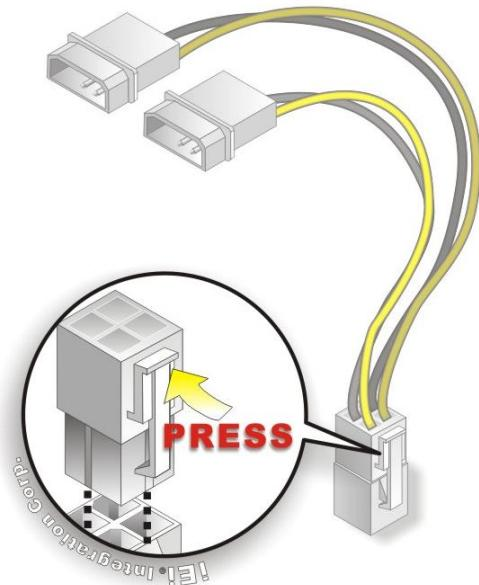

Figure 4-14: Power Cable to Motherboard Connection
Step 2: Connect the power cable to the motherboard. Connect the 4-pin (2x2) Molex type power cable connector to the power connector on the motherboard. See **Figure 4-14**